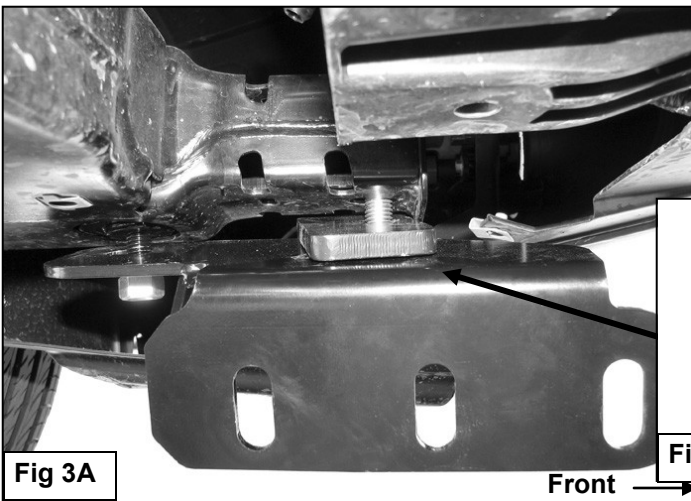

Fig 3A
3. Select the driver side Frame Mounting Bracket. Hold the Mounting Bracket up in position against the bottom of the frame and over the threaded bolt on the Bolt Plate, (Figure 3A). Secure the Bracket to the Bolt Plate with (1) M12 Flat Washer, (1) M12 Lock Washer and (1) M12 Hex Nut. Leave hardware loose at this time. Slide (1) Spacer Plate between the frame channel and the Bracket, (Figure 3A & 3B). Insert (1) M12 x 50mm Long Hex Bolt with (1) M12 Lock Washer and (1) M12 Flat Washer through the hole in the Bracket, Spacer Plate and into the Nut Plate, (Figure 4). Snug but do not tighten hardware at this time.